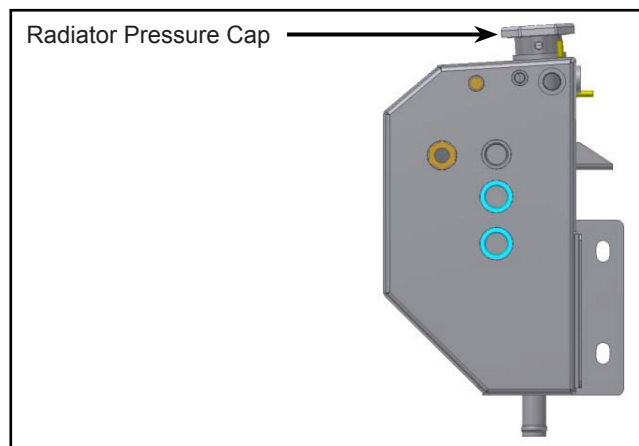

Figure 4 - Typical Location of Radiator Pressure Cap
- 1.7. Remove the radiator pressure cap to vent the cooling system (see Figure 4).